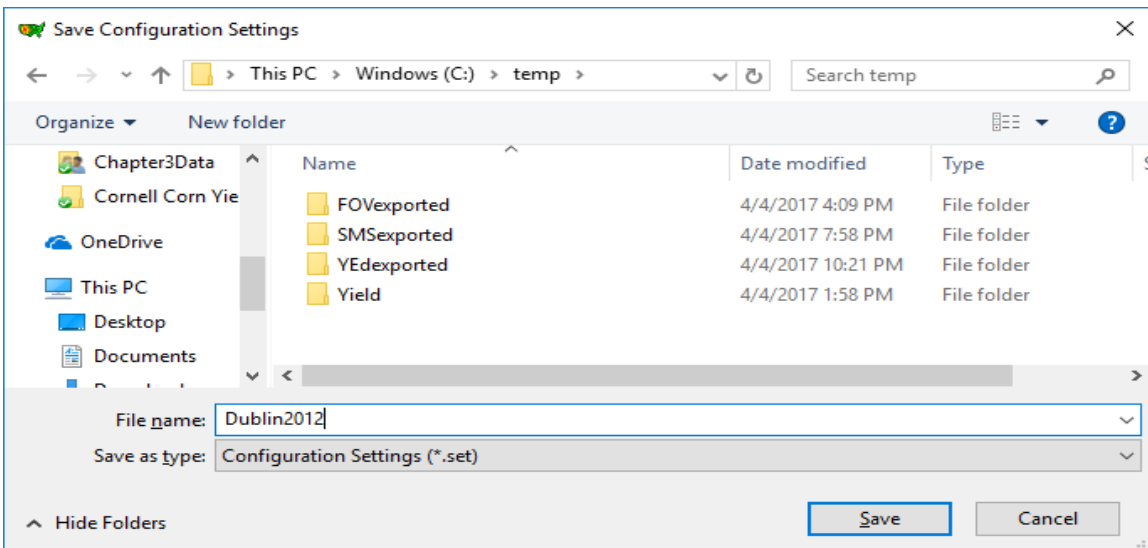

Figure 18. Setting files saved as *.set file extension.
- To save these settings for later use, uncheck 'Save as Default Configuration' and click on 'Save Config'. In the pop up window, browse to the folder where these files need to be saved, give a name under 'filename' and save file as a *.set (configuration settings) file (Figure 18).